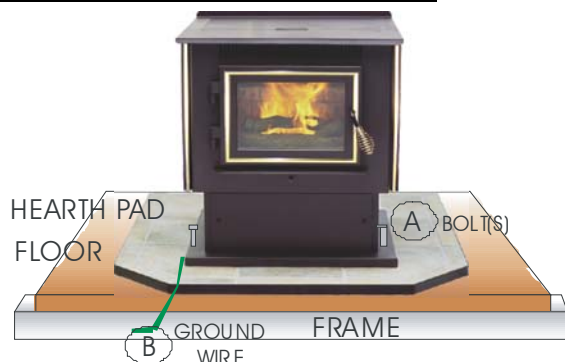

Figure 25
-  Permanently bolt your stove to the floor, (A), figure 25.
-  Electrically ground your stove or the pedestal to the steel frame of the home. Use a number 8 gauge copper wire, (B), figure 25, or equivalent.